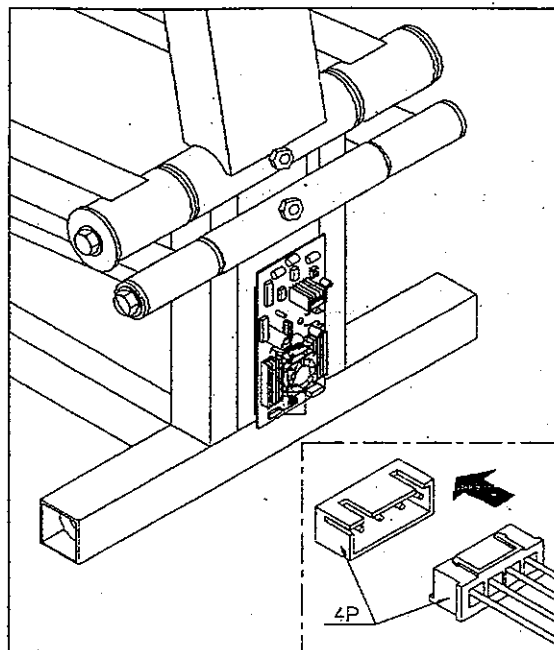

Fig. 11
2. Plug the 4 pin connector into its socket on the drive board (see Fig. 11).